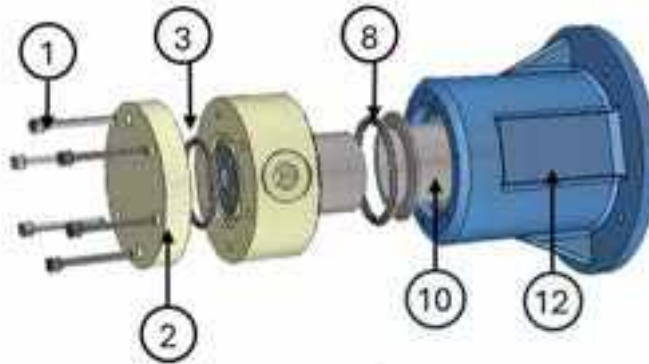

Figure 4
1. Disassemble the pump by removing the screws (1) using an Allen key, removing the cover (2) from the bracket (12), freeing the rear casing (10) and the O-rings (3) and (8) that will be replaced. See figure 4
8- Fit the pump body (8) and the rear casing (10) and lock everything by screwing the cover (2) onto the bracket (12) using the screws (1) (refer to Fig.4)